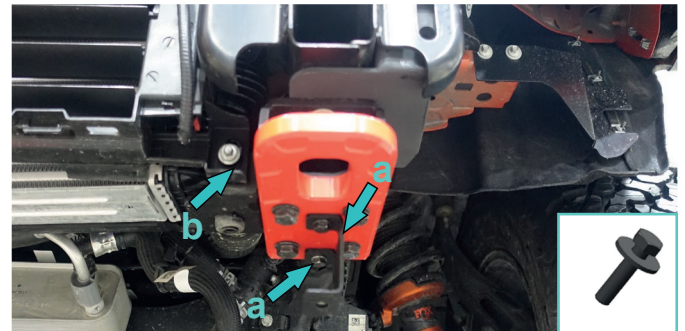

Fig.27
27. a) Install left bracket for skid plate (item 25) on the left side using bolts M8x20, washers 8 (item C, P).
b) Fix factory bracket to intercooler left bracket (item 24) using factory bolt (fig.27).